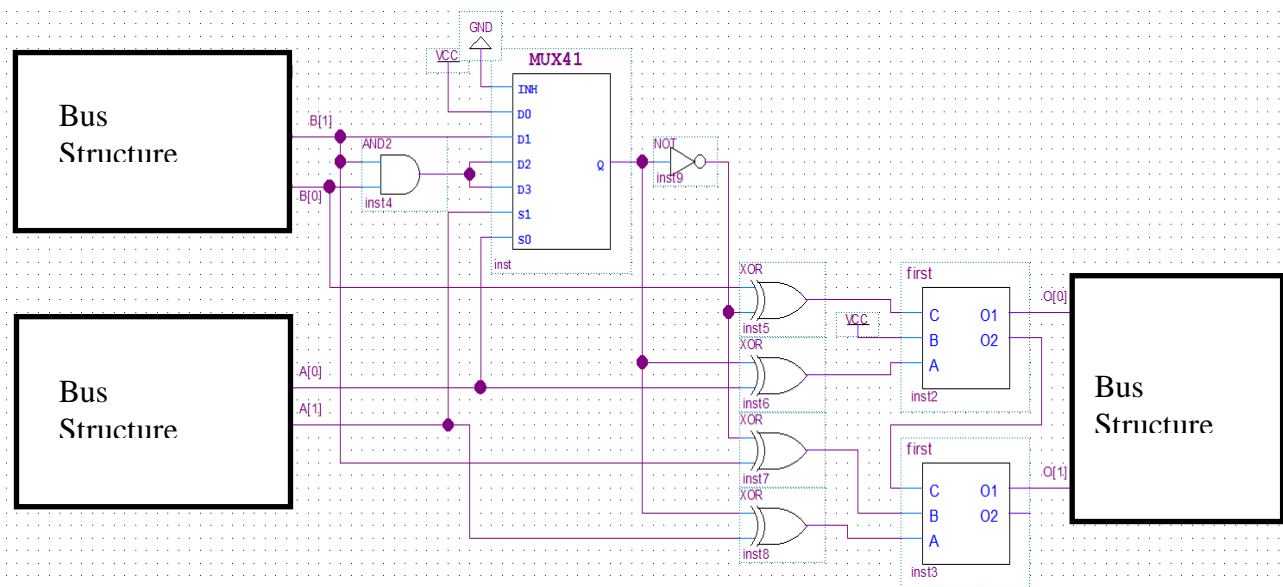

Figure 2
- Using the symbol block you have just built, draw the circuit given in Figure 2 as the top-level schematic file.
- What is the function (name) of this component (Figure 2)?
- Simulate the circuit in Figure 2 such that following inputs are applied consecutively and fill in the table below. **Make sure** to use bus structure for inputs.